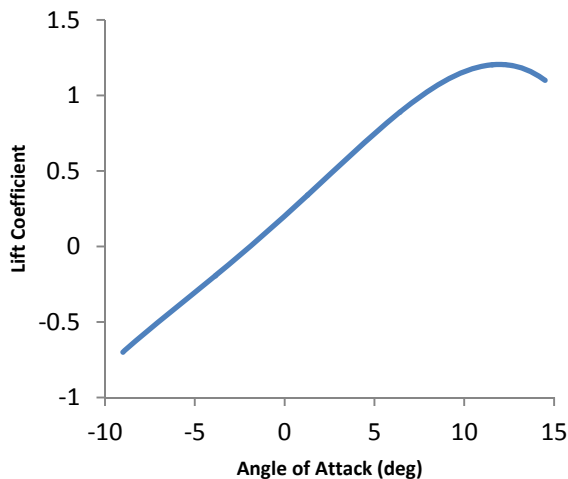

Figure 3-Coefficient of Lift vs. Angle of Attack
C_D and C_L are the coefficients of drag and lift. Calculating the coefficients of drag and lift requires very advanced math and a highly detailed understanding of the geometry of the airfoil, and so they are generally found experimentally, as some relation to the angle of attack of the blade (AA). Values for the coefficients of lift and drag are found in Figures 3 and 4. (You will have to extract data points and fit a curve to them in order to make an equation and calculate these values.)